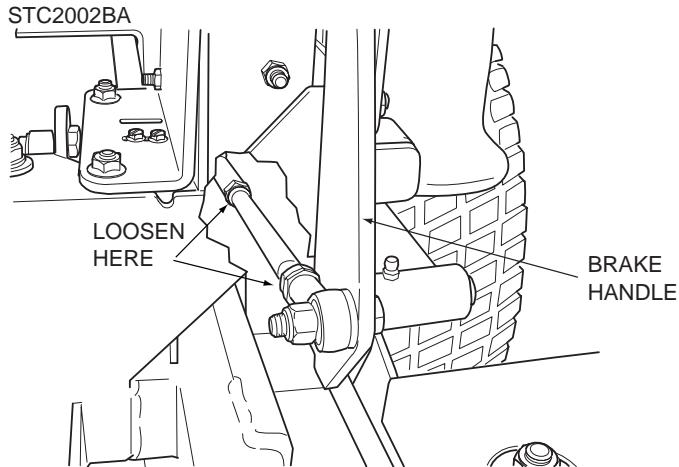
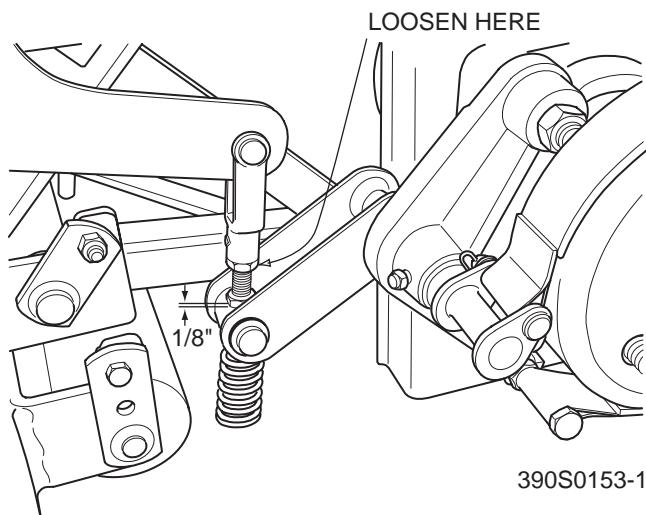

Figure 6-1. Brake Adjustment
Figure 6-2. Brake Rod Adjustment
2. With the brake in the engaged position, check the distance between the lower nut on the brake actuator rod and the brake actuator lever on the LH side of the machine. The distance should be $1/8"$ (See Figure 6-2).
3. If the distance is not at the specified measurement, loosen the jam nut at the clevis on the top of the brake actuator rod (See Figure 6-2).
4. Turn the bolt at the bottom of the brake actuator lever until the $1/8"$ measurement is achieved and tighten the jam nut at the clevis on the brake actuator rod. (See Figure 6-2). If the $1/8"$ measurement can not be achieved by adjusting the brake actuator rod, adjust the brake control rod. Adjust by loosening the jam nuts at both ends of the brake control rod and turning the rod until the proper distance is achieved. (See Figure 6-1)